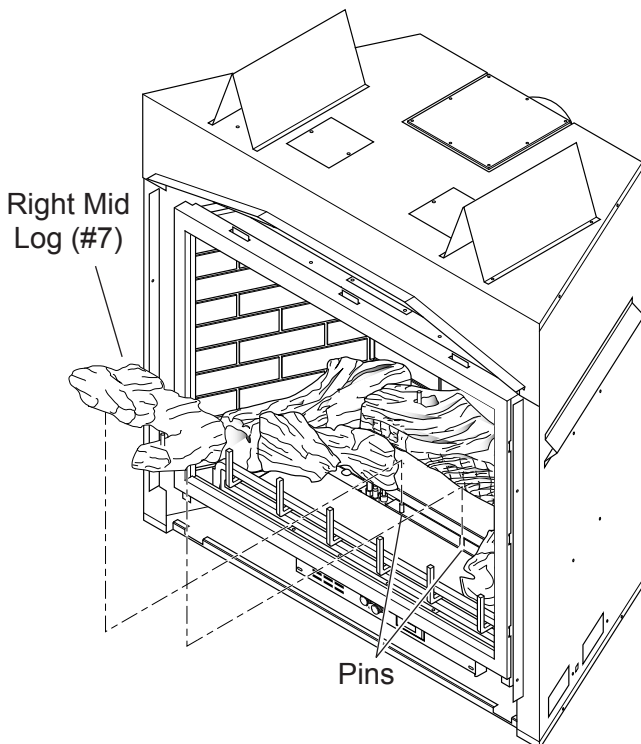

Figure 46 - Installing Right Mid Log (#7)
7. Place right mid log (#7) on two right pins on burner assembly. See Figure 46.